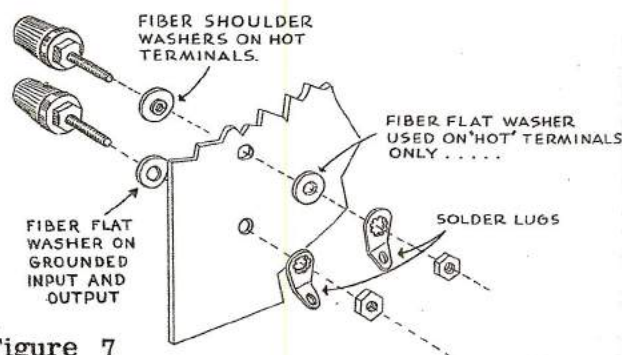

Figure 7
- (✓) On the front panel, mount a binding post base at BA. Place the post through a flat fiber washer, the panel, a solder lug and 6-32 nut. Orient the solder lug as shown in Figure 1. See Figure 7.
- (✓) Mount a binding post base at BH, placing the base through a shoulder fiber washer, the panel, a flat fiber washer, a solder lug and nut as in Figure 7. Make sure the shoulder washer is properly seated before tightening.